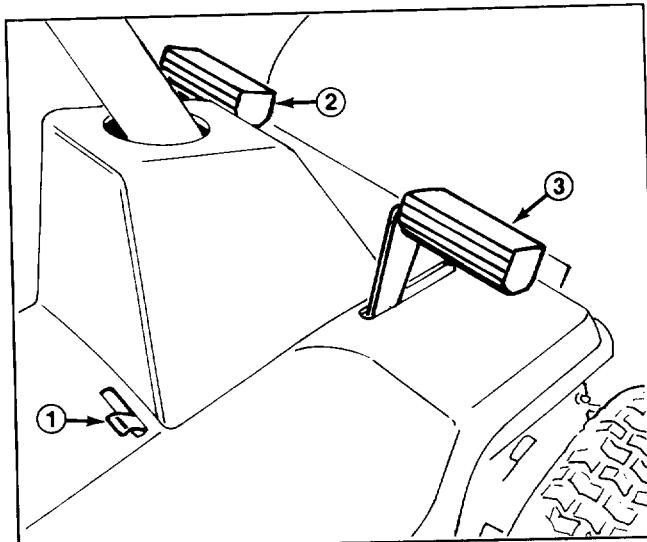

Figure 6
Clutch Pedal (Fig. 6) — Foot-operated clutch pedal is used in conjunction with gear shift. Depress clutch pedal fully when shifting gears. Depress clutch pedal whenever brake is used.
Brake Pedal (Fig. 6) — Foot-operated brake pedal must be depressed to slow down or stop the rider. When pedal is depressed, a caliper engages the brake disc on the side of the transmission. Always depress clutch pedal when using brake.
Parking Brake (Fig. 6) — Parking brake must be used in conjunction with brake pedal. When pedal is depressed and end of parking brake lever holds brake pedal in depressed position, a caliper engages the brake disc at side of transmission.
Ignition Switch (Fig. 6) — Switch has three positions: ON, OFF and START.
1. Engage the parking brake (Fig. 6): refer to using Parking Brake, page 14.
2. Move parking brake control to the left and release brake pedal until it contacts end of parking brake lever (Fig. 6).
3. To release the parking brake, depress brake pedal (Fig. 6), which will allow parking brake lever to return to its disengaged position. Then release brake pedal.